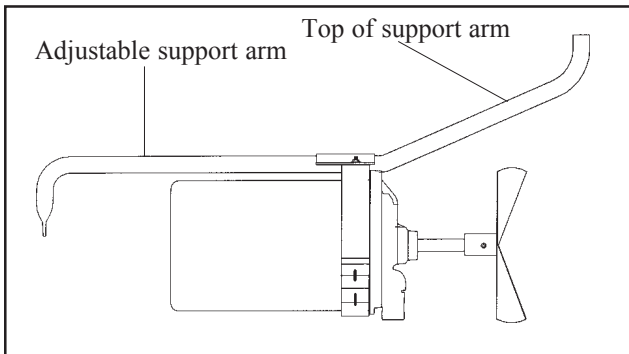

Figure 19
B. Installing adjustable support arm. - see Figure 19
1. Attach the adjustable support arm to the mounting ring using (2) 1/4" flange nuts. Torque the bolts to 10-12 ft/lbs.